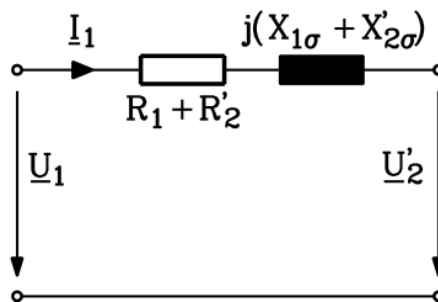

Fig. 8.7-4: Transformer equivalent circuit per phase with infinite big magnetizing reactance (= neglected magnetizing current).
- 5) A starting transformer does not only act as a series impedance, but via the transfer ratio it is also reducing the starting current $I_2 = I_1 \cdot \dot{u}$ due to a smaller secondary voltage $U_2 = U_1 / \dot{u} < U_1$, which feeds the stator winding (Fig. 8.7-4). The transformer series impedance is mainly its total leakage reactance.